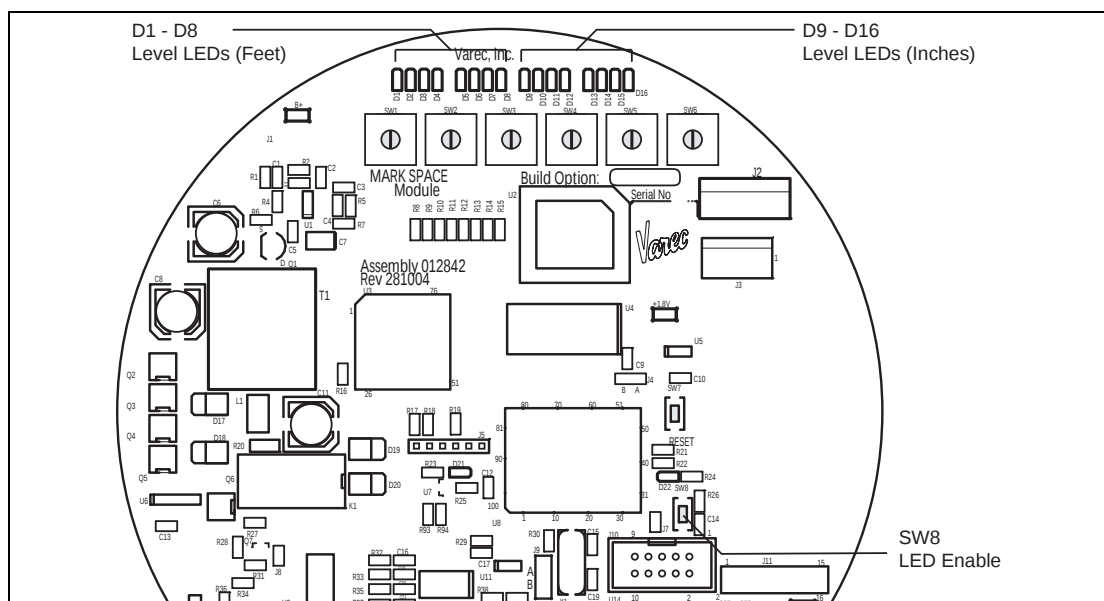

Figure B-1: LED and Switch Locations (Mark/Space Communications circuit board, top view)
Figure B-1 shows the LED locations on the communications circuit board. LEDs D1 – D8 indicate the level in feet, in 1/2 – foot increments. LEDs D9 – D16 indicate the level in inches, in 1/16 – inch increments.
**Note** To activate the LEDs on the communications circuit board, press switch SW8, shown in Figure B-1. The LEDs will be enabled for about three minutes.